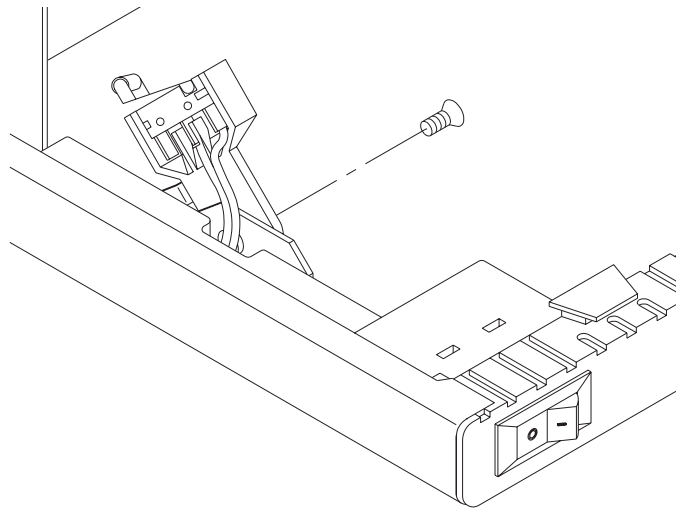

Figure 3-10 Moving the door switch plate
2. Using a T-15 TORX driver bit, remove the screw that holds the door switch plate in place, as shown in Figure 3-10. Move the switch aside (down and toward the front of the EXB-10); do not disconnect the cable still attached to the switch.
9. Replace the door switch plate and rotate it toward the CTS until it comes in contact with the stop, as shown in Figure 3-10. Using a T-15 bit, tighten the screw that holds the door switch plate in place to 12 inch-pounds (13.8 kg-cm) of torque.